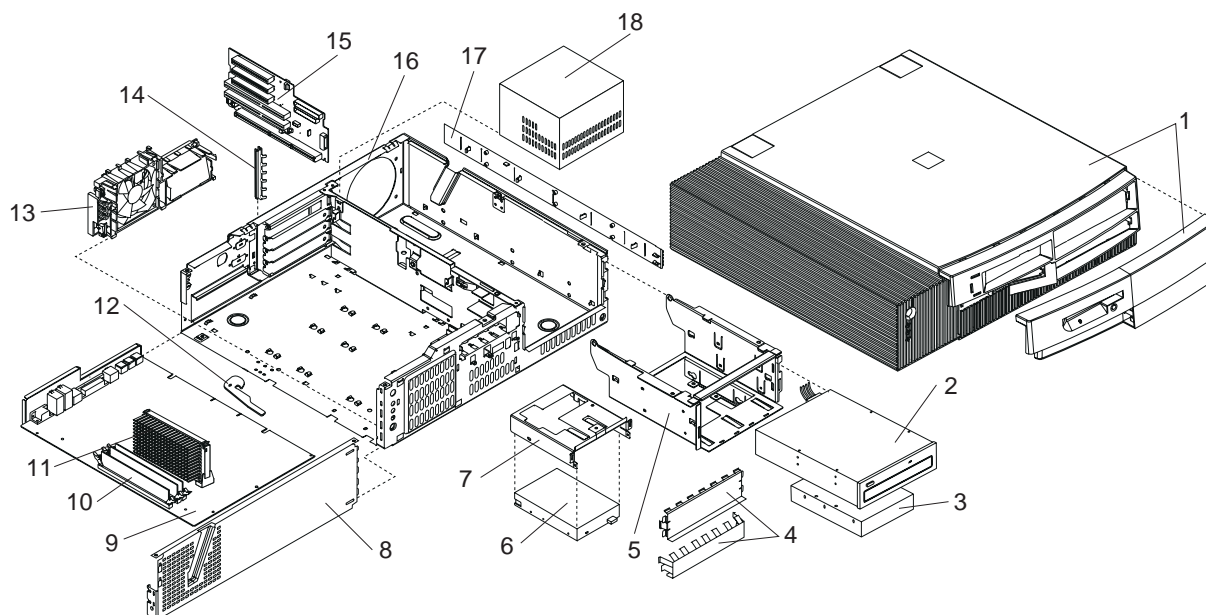

Figure 1. Network Node Processor Exploded View
Figure 1 shows the Network Node Processor system unit with the covers removed. This figure illustrates the general layout of the system unit. This general layout is the same for all configurations, even though component units (input/output, storage, and so forth) may be changed or added.
- \_\_\_ 1. Refer to Figure 1 on page 5 and locate the system board **9**.